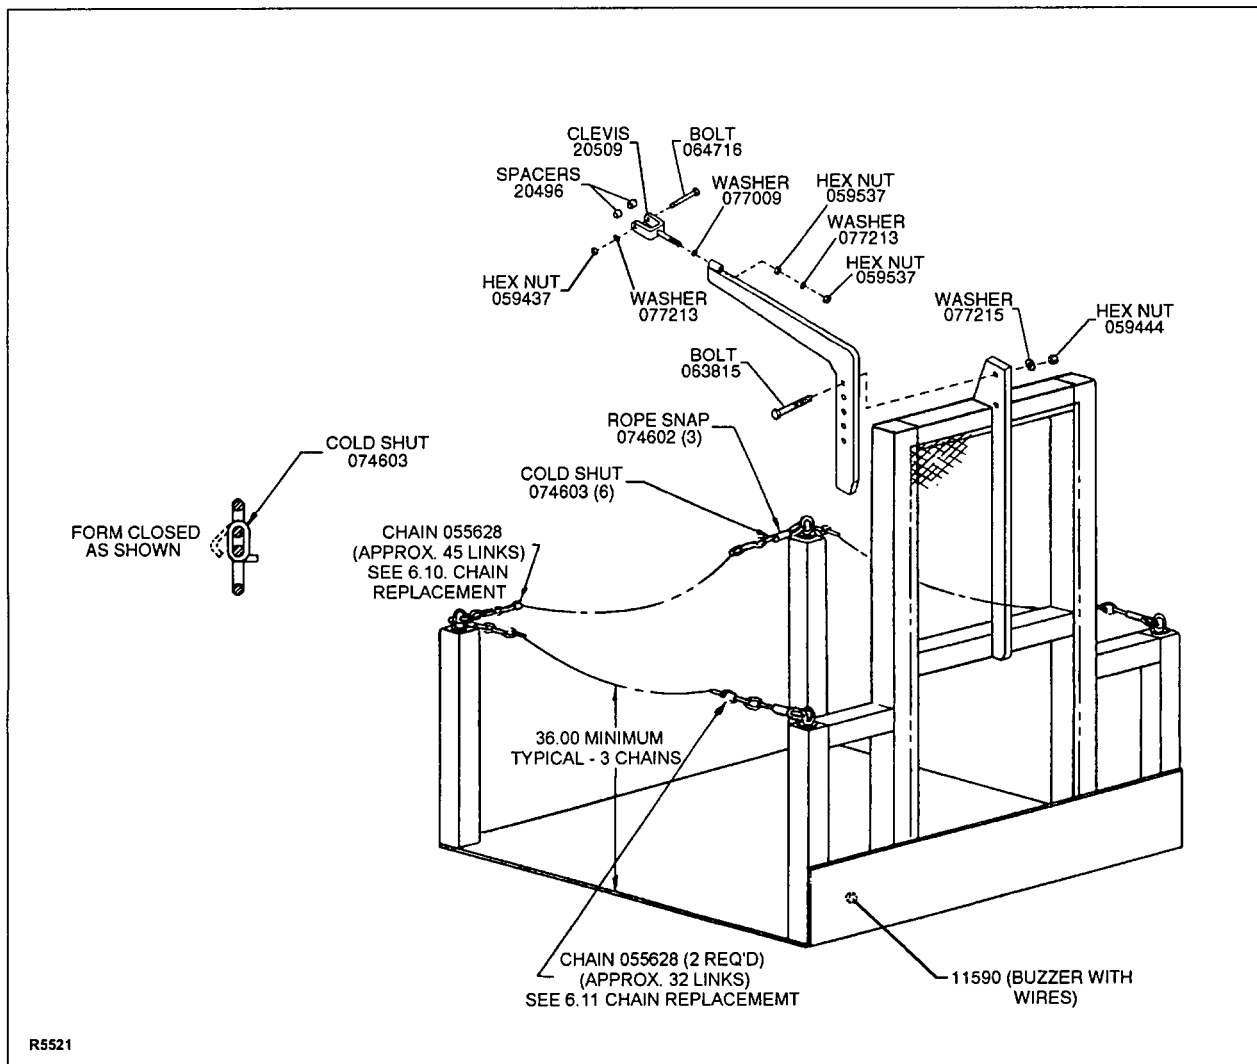

Figure 22. Platform
The complete platform is shown in Figure 22.
6.13. Platform Chain Replacement (Figure 22)